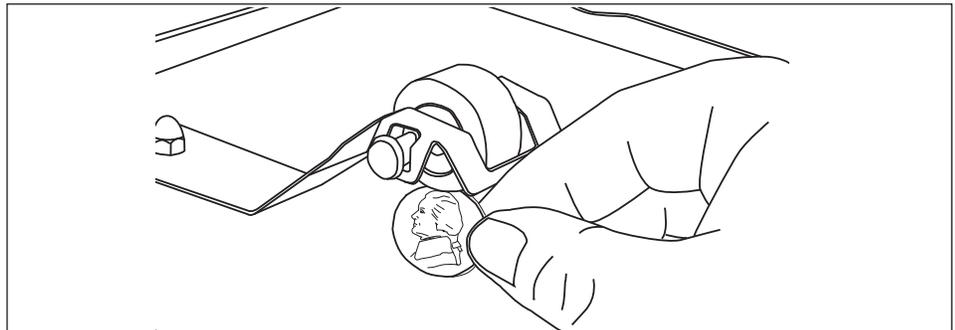

Figure 11. Measuring Roller Tensioner
NOTE: As of March 2017, the Interlock Switch was removed from use. If your toaster has the Interlock Switch (Figure 11), you will need to place the Heat Shield onto the toaster in order for the conveyors to turn. If your toaster does not have an Interlock Switch, the conveyors will turn as long as the unit is on.
1. Measure the Roller Tensioner on both inner Conveyor Covers (Figure 11) using a U.S. Nickel.